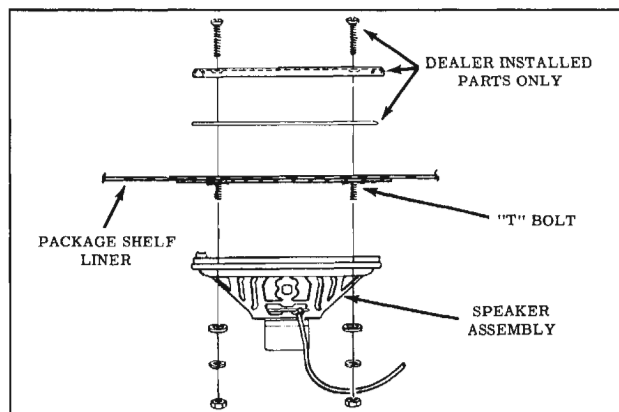

Fig. 13-14 Rear Seat Speaker (Except 35, 45 & 67)
2. Remove four mounting nuts, lock washers, and flat washers, while supporting speaker to prevent it from dropping. (Fig. 13-14)